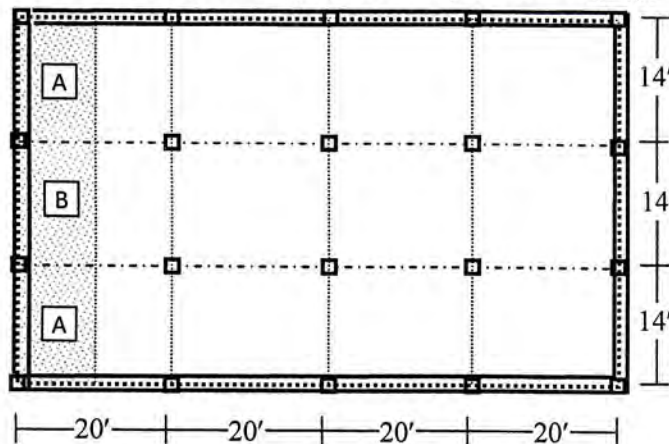

Fig: 1
1. A building is to be designed as a flat plate structure (supported on edge beams). A plan of the building is shown in **Fig: 1**. The columns are 20"x20" in size. Use WSD method to calculate the column strip and middle strip moments of Panel A and Panel B.